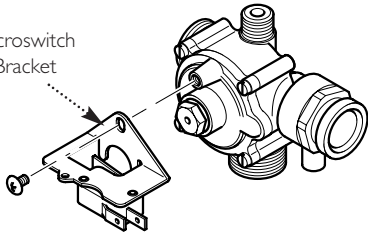

Fig. 77
14.20 Central Heating Differential Valve (Figs. 77 & 78)